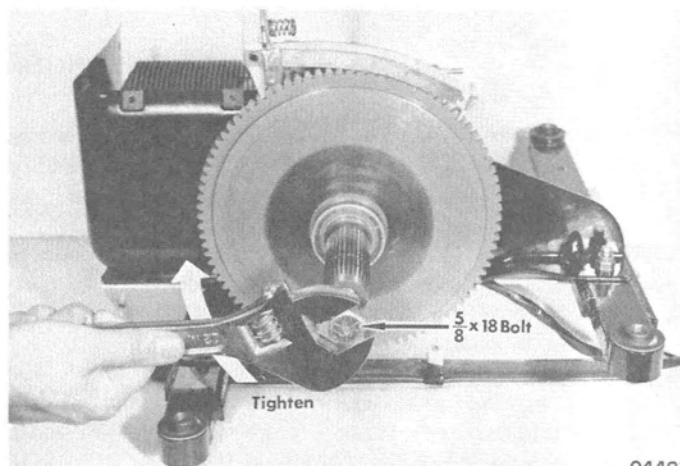

Figure 4. Removing Flywheel from Crankshaft
7. Hold flywheel with flywheel holder and tighten screw until flywheel snaps loose from crankshaft. Remove flywheel and screw. (Figure 4)